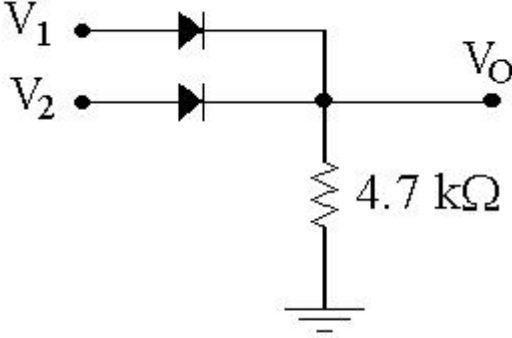

Figure 3 : Positive Logic OR Gate.
1- Construct the circuit as show in Figure 3.
- 1- On the basis of your results obtained in Table I, show that the circuit of Figure 2 behaves as AND gate for positive logic, but it will function as an OR gate for negative logic. Similarly, show that the results of Table II indicate the circuit of Figure 3 behaves as an OR gate for positive logic and as an AND for negative logic.